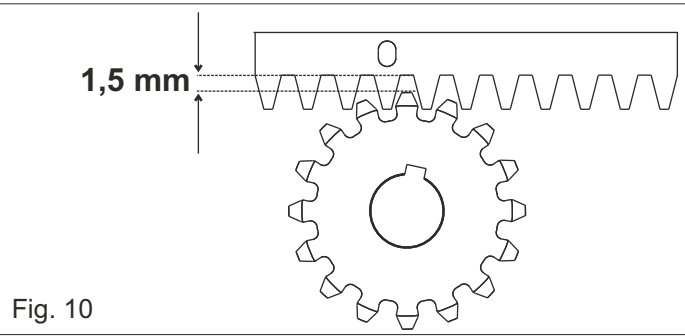

Fig. 10
**5.6.** To avoid that the gate weights down the pinion (Fig. 10) lift up the whole rack about 1,5 mm.